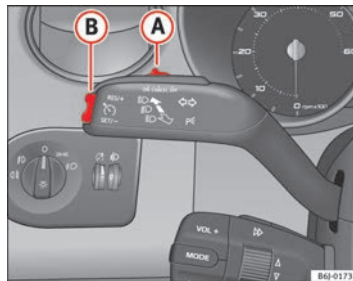

Fig. 111 Turn signal and main beam headlight lever: switch and rocker switch for the cruise control
- Move the control ⇒ Fig. 111 A to the left to **ON**.